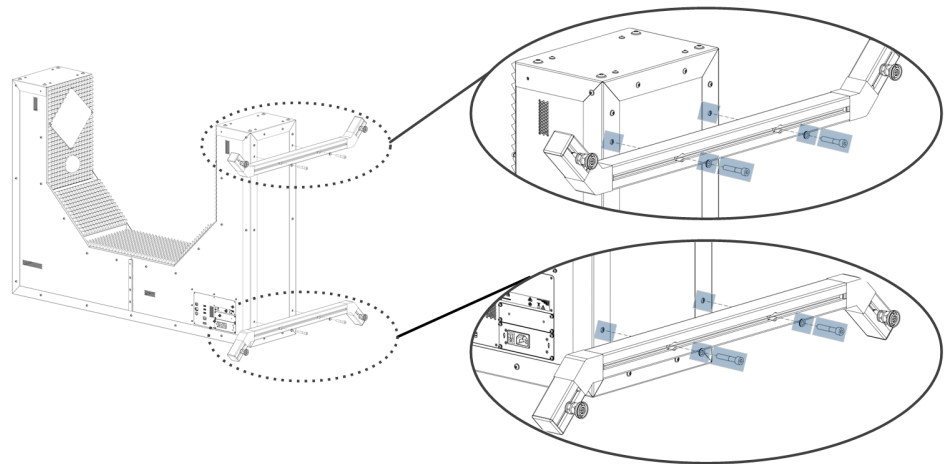

Figure 4-8: Attaching the supporting feet for upright position
- a) Screw the two feet to the mounting holes indicated in Figure 4-8 with an Allen wrench. The screws and wrench are part of the delivery (M8X45). Put the washers between screw heads and feet.